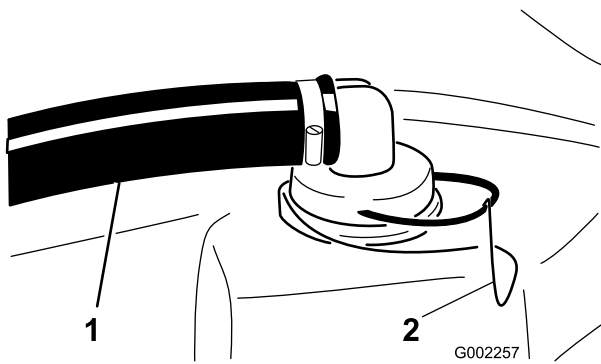

Figure 54
- Remove the retainer from the red fitting attached to the large hose on the top of the tank (Figure 54).
3. Disconnect the hose from the tank (Figure 54).